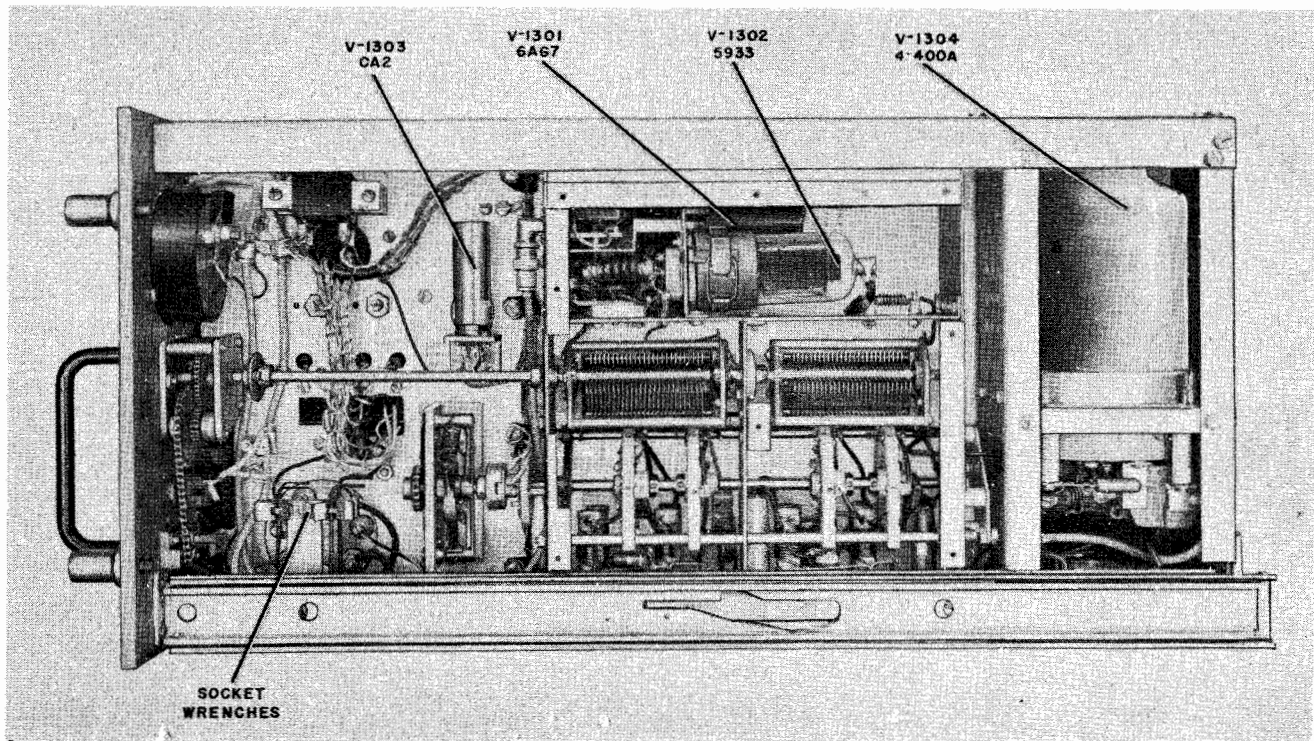

Figure 5-7. Radio Frequency Amplifier AM-1008/SRT (RFA), Right Side, Tube Locations
provided for this purpose, is attached to the right side of the chassis, forward. (See figure 5-7.)
(3) REMOVING THE IPA TUBES V-1301 AND V-1302. (See figure 5-7.)—The voltage regulator tube, V-1303, requires no special removal procedure. The other tubes in the Radio Frequency Amplifier are part of the IPA subassembly. These tubes are V-1301 and V-1302. The subassembly cover plate must be removed to gain access to these tubes. V-1302 must be removed before V-1301 can be reached.
The subassembly cover plate has already been removed as seen in figure 5-7 to show the tubes.